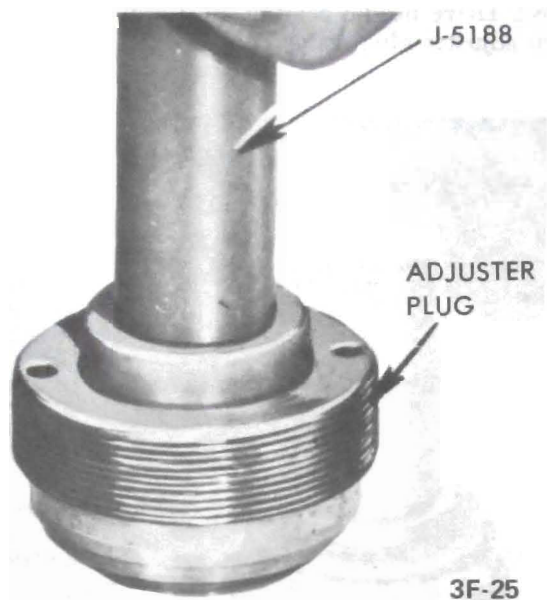

Figure 3F-15 - Installing Seal
5. Install a new bearing retainer on the adjuster plug by carefully tapping on the flat surface of the retainer. Figure 3F-16.